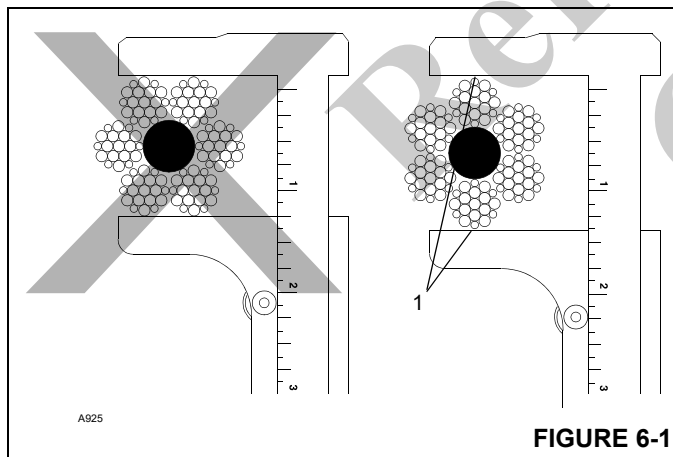

FIGURE 6-1
- Measure the rope’s diameter across crowns of the strands when determining if rope has become damaged, refer to Figure 6-1.